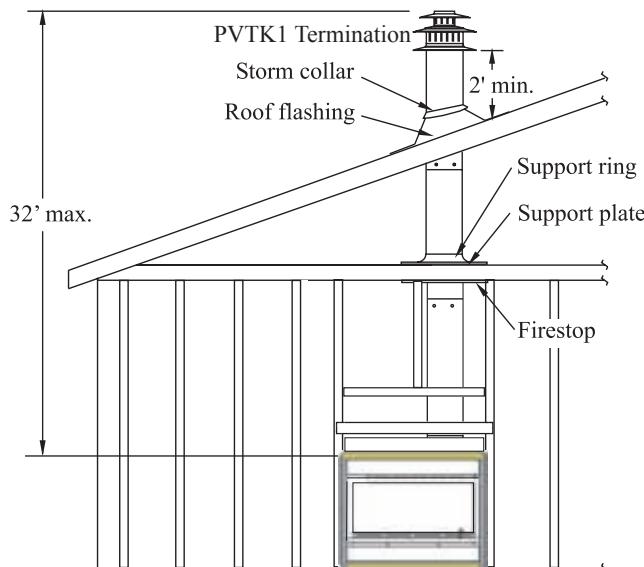

Figure 11. Top vent, Roof mounted termination with no offset in vent run.
- The Vertical termination must be a minimum 2' higher than where the termination exits the roofing materials, (asphalt shingles, cedar shakes, etc). This distance should be measured from the high side of the roof slope where the flue flashing intersects the roofing materials. (see **Figures 11 to 11c** *).